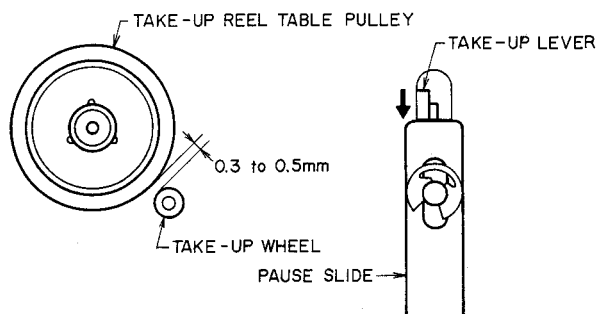

Fig. 4
3. ADJUSTMENT OF GAP BETWEEN TAKE-UP REEL TABLE PULLEY AND TAKE-UP WHEEL (Refer to Fig. 4)
Adjust by bending the Take-up Lever in direction indicated by the arrow mark in Fig. 4 so that when the machine is set from playback to pause mode the take-up wheel completely separates from the Take-up Reel Table Pulley and further this gap is from 0.3 to 0.5 mm.